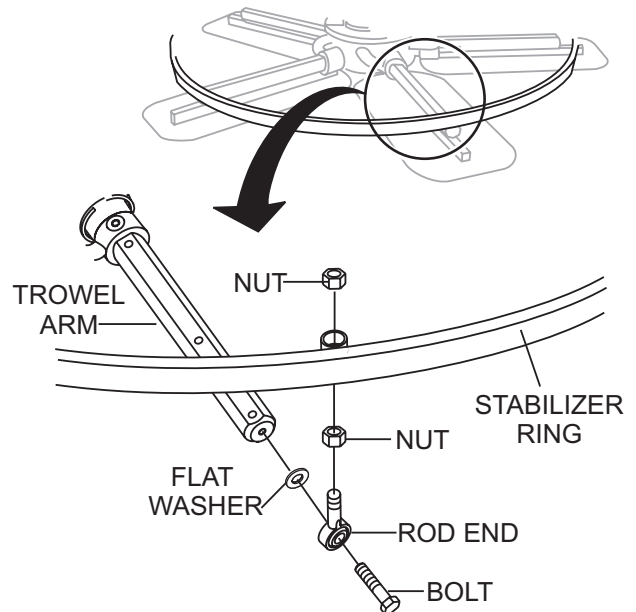

Figure 49. Stabilizer Ring
1. Remove the hardware securing the stabilizer ring to the trowel arm (Figure 49).